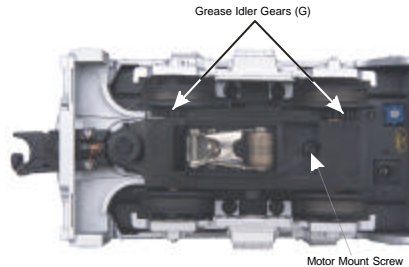

Figure 4
2. Once the cab is removed, remove the trucks by unscrewing the black Phillips motor mount screw located on the underside of the drive trucks (see Fig. 4).
Lubricate the outside truck block idler and drive gears with grease. Use the diagram shown in Figure 4 as a guide and add grease to the points marked with a “G.”